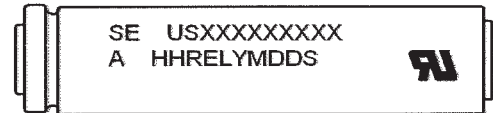

Fig.1
6.2 Trade Mark (Fig.1 : USXXXXXXXXXX) 登録機種名 (Fig.1 : USXXXXXXXXXX)
6.3 Plant (Fig.1 : A for plant code) 製造所 (Fig.1 右記図 : A)
6.4 Specification (Fig.1. : HH for Cell Type) 仕様 (Fig.1 : HH)
6.5 Lot Number (Fig.1 : YMDDS for Manufacturing Date of Cells)
ロット、セル製造年月日 (Fig.1 : YMDDS)
Lot Number (Fig.1 : YMDDS for Manufacturing Date of Cells)
6.6 UL Marking UL マーク (Fig.1 : Recognition Mark)